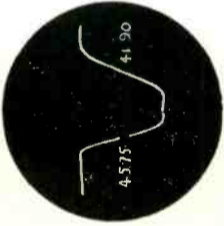

FIG. 4
- Adjust top of T-6 and L-4 on tuner (L-14 on standard coil tuner) assembly to produce a curve as shown on Figure 4.